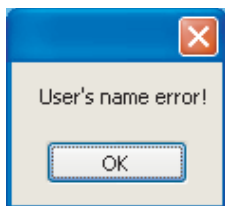
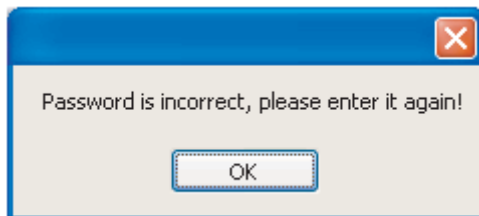

Fig. 4-8
Fig. 4-9
6) When provide a wrong USERE'S NAME, the window as Fig.4-8 will be display, while PASSWORD error, the window shows like Fig.4-9.